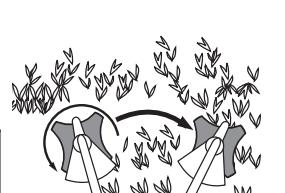

Fig. 12
- Swing the unit into material to be cut from left to right (Fig. 12)